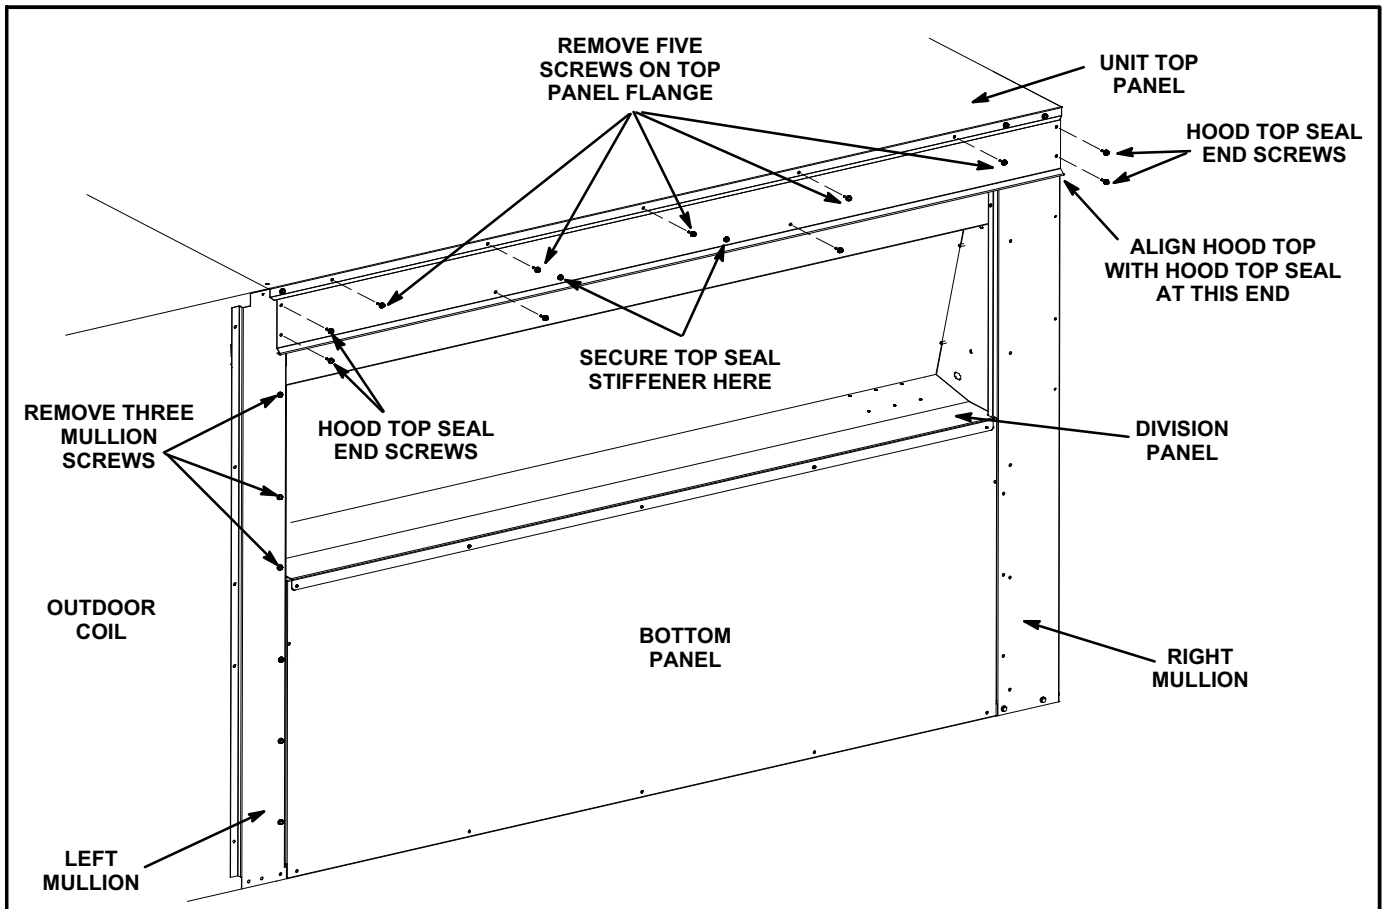

FIGURE 22
The outdoor air hood is packaged separately but attached to the damper assembly crate. Use #10 self drilling screws to install hood unless noted otherwise. Refer to figures 22, 23 and 24.
- 2- Secure top seal stiffener to back side of hood top seal. See figures 22 and 23.
- 3- Slide hood top seal under unit cabinet top and secure using five retained top screws. Install, but do not tighten, the two screws on each end of the hood to seal. Refer to figure 22.
- 4- Remove and retain top three screws on the left mullion of the outdoor air section. See figure 22.
- 6- Position the hood top edge V-channel under the corresponding V-channel on the hood top seal and slide into place from right to left. See figure 22 and 23.